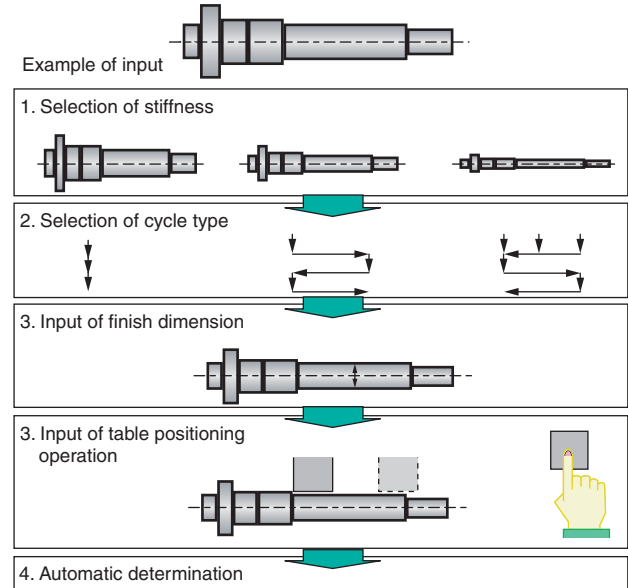

Fig. 6 Programming grinding-data
- 6) The GC50 has a series of functions including automatic inboard alignment of the grinding wheel and the work piece, taking in the location data at the push of a button and converting that into the data required for automatic operation. This function effectively reduces the amount of required data input and reduces input errors (Fig. 6) (Operation data input function).